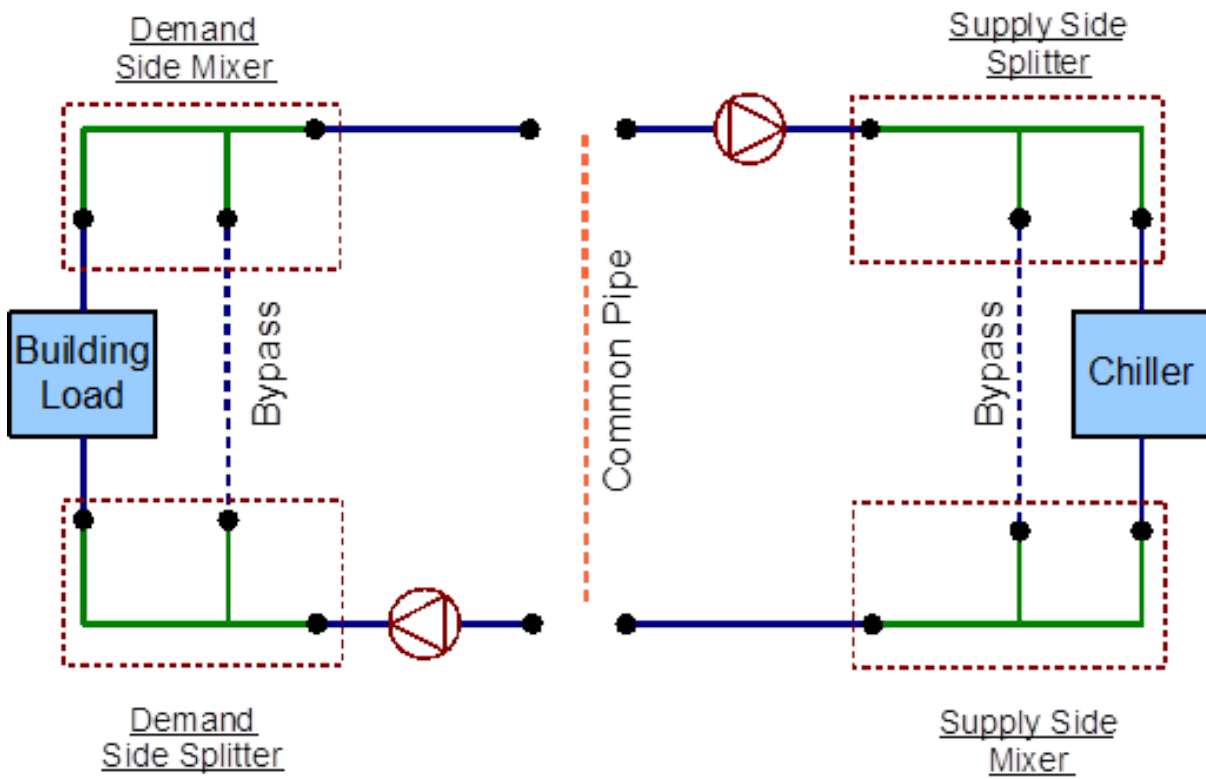

Figure 4.8: Splitters and mixers in the loop
7. **Identify the position of the connectors in the system.** The *PlantLoop* accepts only one splitter-mixer pair per half loop. The connectors are defined by using branches; a splitter can have one inlet branch and any number of outlet branches whereas a mixer can have any number of inlet branches and one outlet branch. All the connectors in the loop are denoted by the green lines in Figure 4.8.